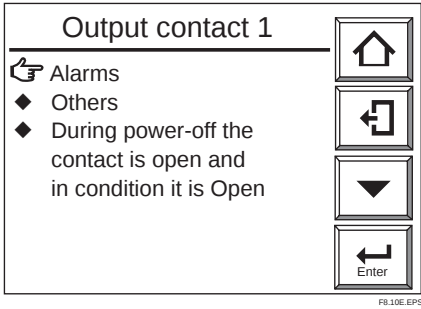
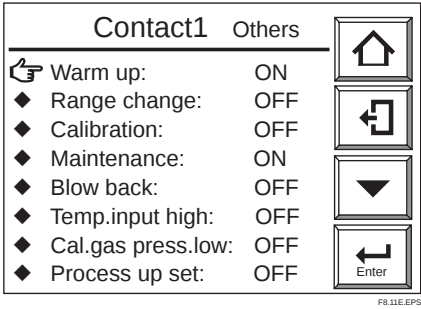

Figure 8.10 Output Contact 1 Display
Figure 8.11 “Contact1 — Others” Display
- (4) Select the desired output contact. This section shows an example where contact output 1 is selected (see Figure 8.10).
- (5) Each set item and the selected items are briefly described in Table 8.6. The following describes an example of setting where output contact 1 is closed during calibration.
- (6) Select Others in the Output contact 1 display. The “Contact1” display shown in Figure 8.11 then appears. Select Calibration in the Contact1 display.
- (7) The on or off selection display then appears. Select “on” herein.
- (8) Press the Return key to go back to the previous display.
- (9) Move the pointer to “During power-off the contact is open and in condition it is Open” and press the [Enter] key. The “off” or “on” selection display then appears. If you select “off,” this mean “open” in normal conditions and “closed” when the contact output is on.